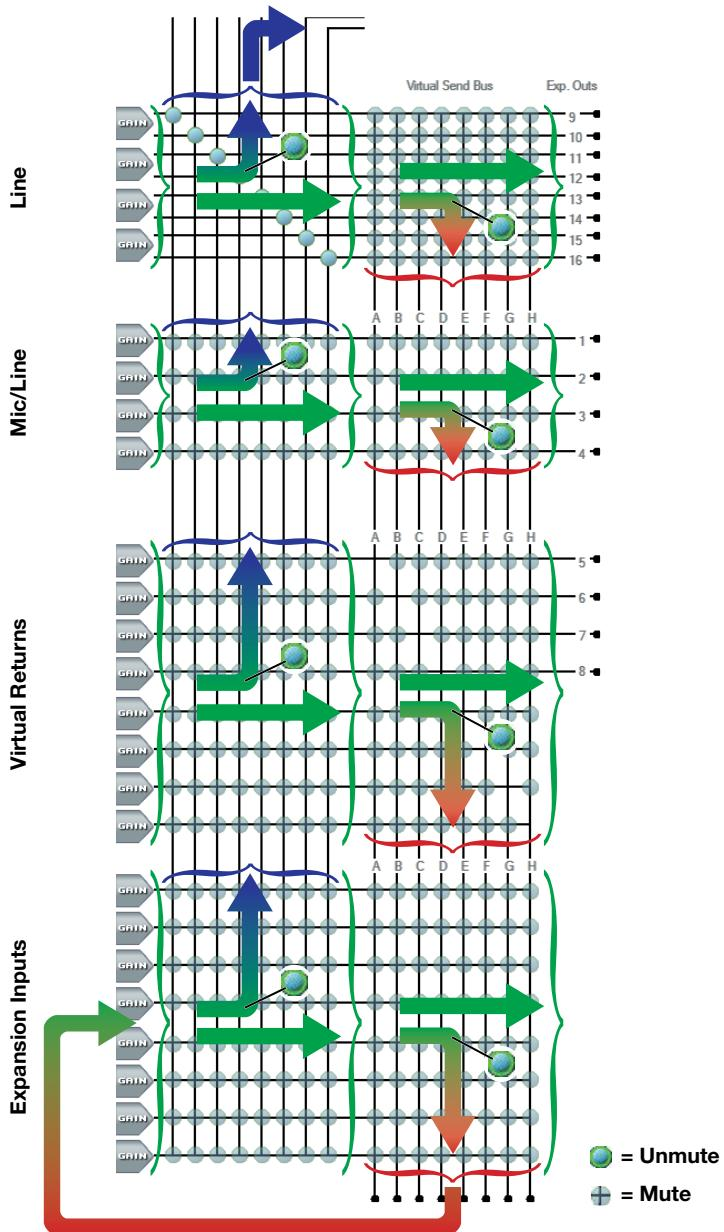

Figure 47. Simplified Mixer Signal Flow
- Mix-point mutes (indicated by in figure 47, a graphic representation of the mixer) do not block the horizontal signal flow. Unless muted **before** the mixer, audio always flows from left to right through the mixer.